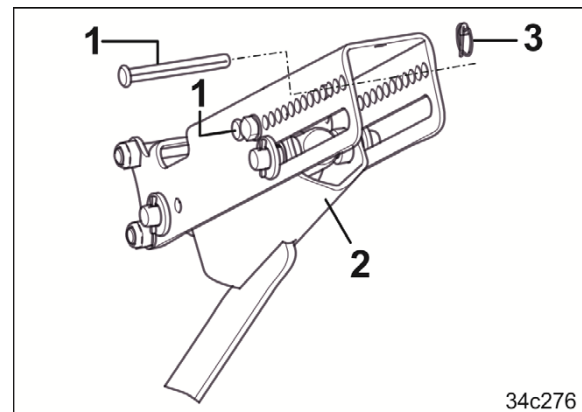

Fig. 168
2. Insert one pin each (Fig. 168/1) below and above the stop (Fig. 168/2) into the adjuster segment and secure with linch pins (Fig. 168/3).